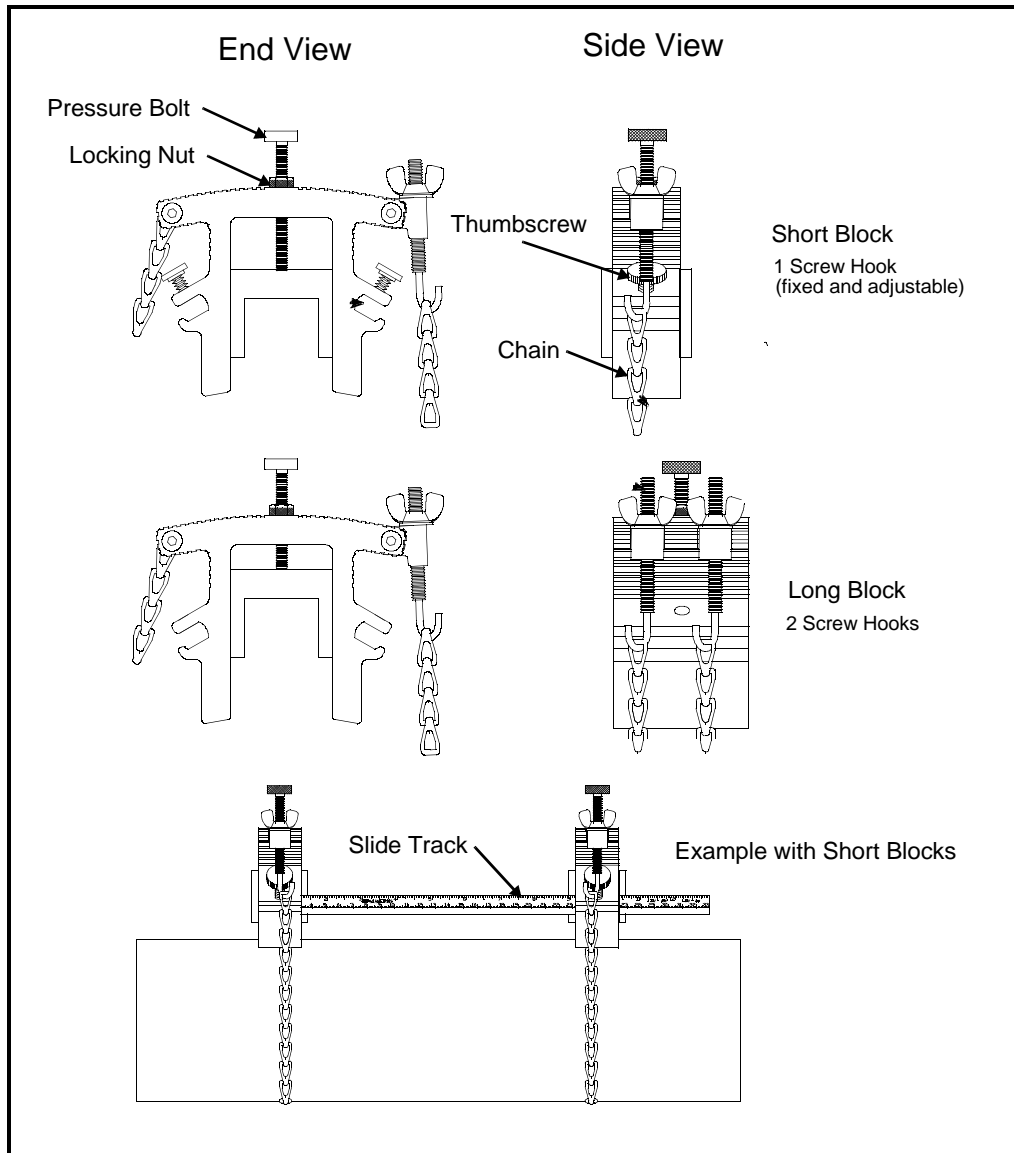

Figure 4: Components of the UCF
The **UCF** includes the following components (see Figure 4 on page 7):
- Tighten the locking nut on the pressure bolt (see Figure 4 on page 7).